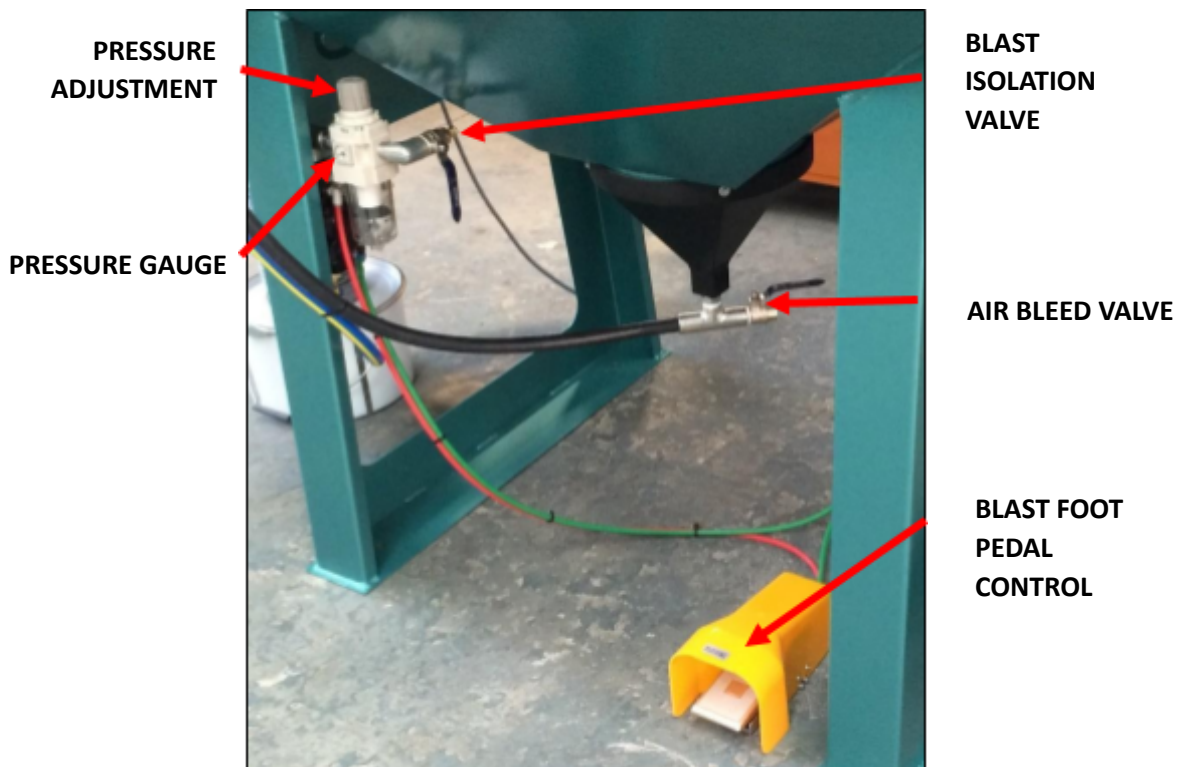

Figure 26.
- 4.3 Check the pressure gauge reading on the front of the pressure regulator. The pressure will need to be adjusted to suit each particular application; however, the initial setting should be approximately between 60psi to 80psi. Refer figure 26.